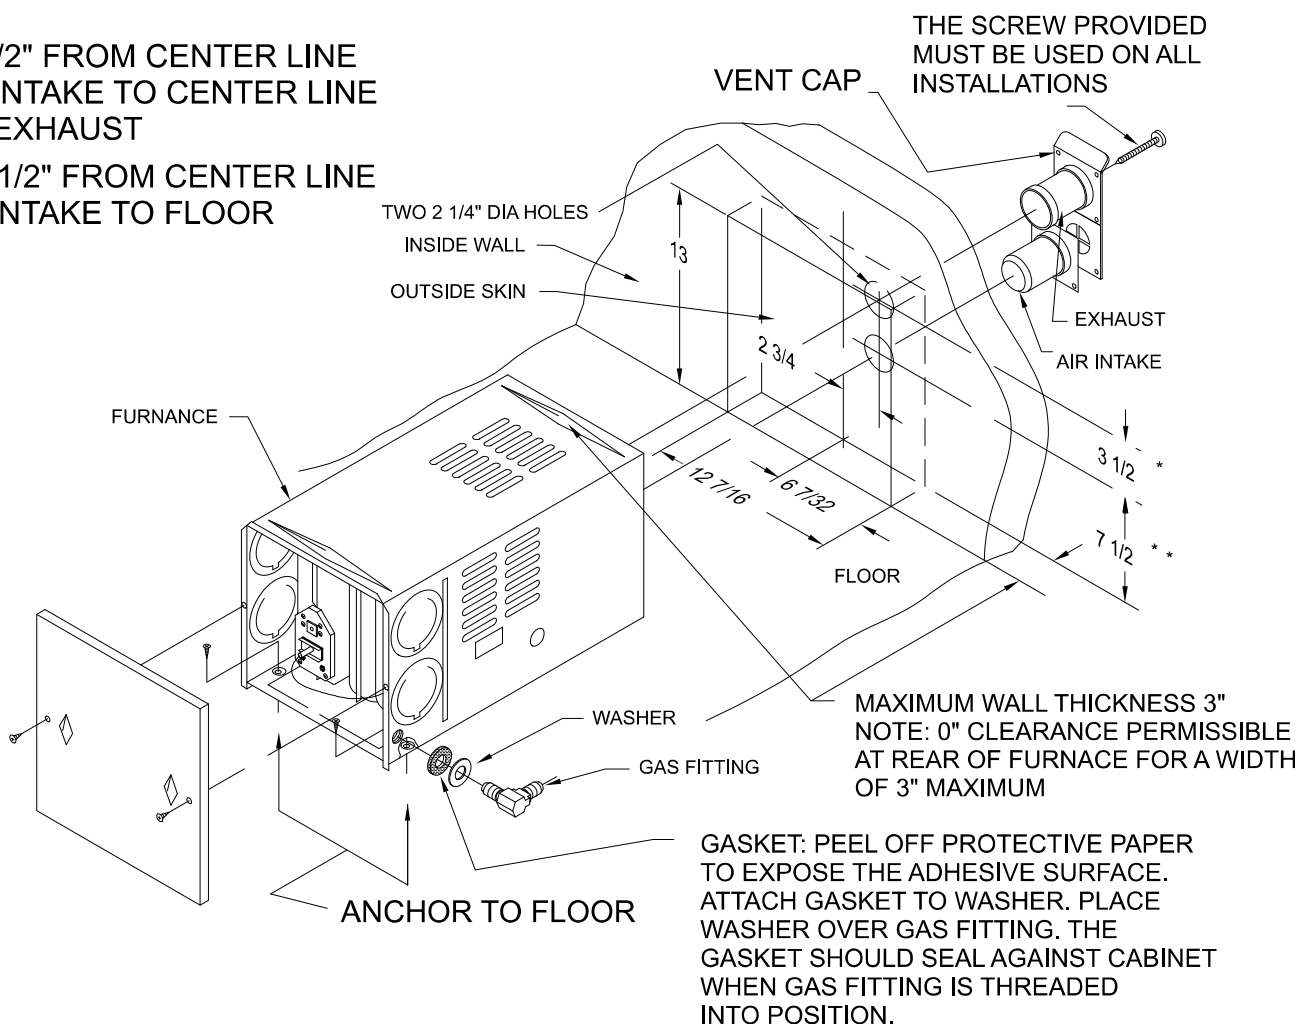

Figure 1
1. Be sure that the gas fitting is outside of the furnace jacket and easily accessible. (See Figure 1.) The fitting may be connected directly to the 90° elbow at the gas inlet to the furnace. To assure an airtight seal, be sure the gasket provided with the furnace is installed between the fitting and the furnace cabinet, as illustrated in Figure 1. If this gasket is omitted, it could result in overheating of component parts within the furnace.